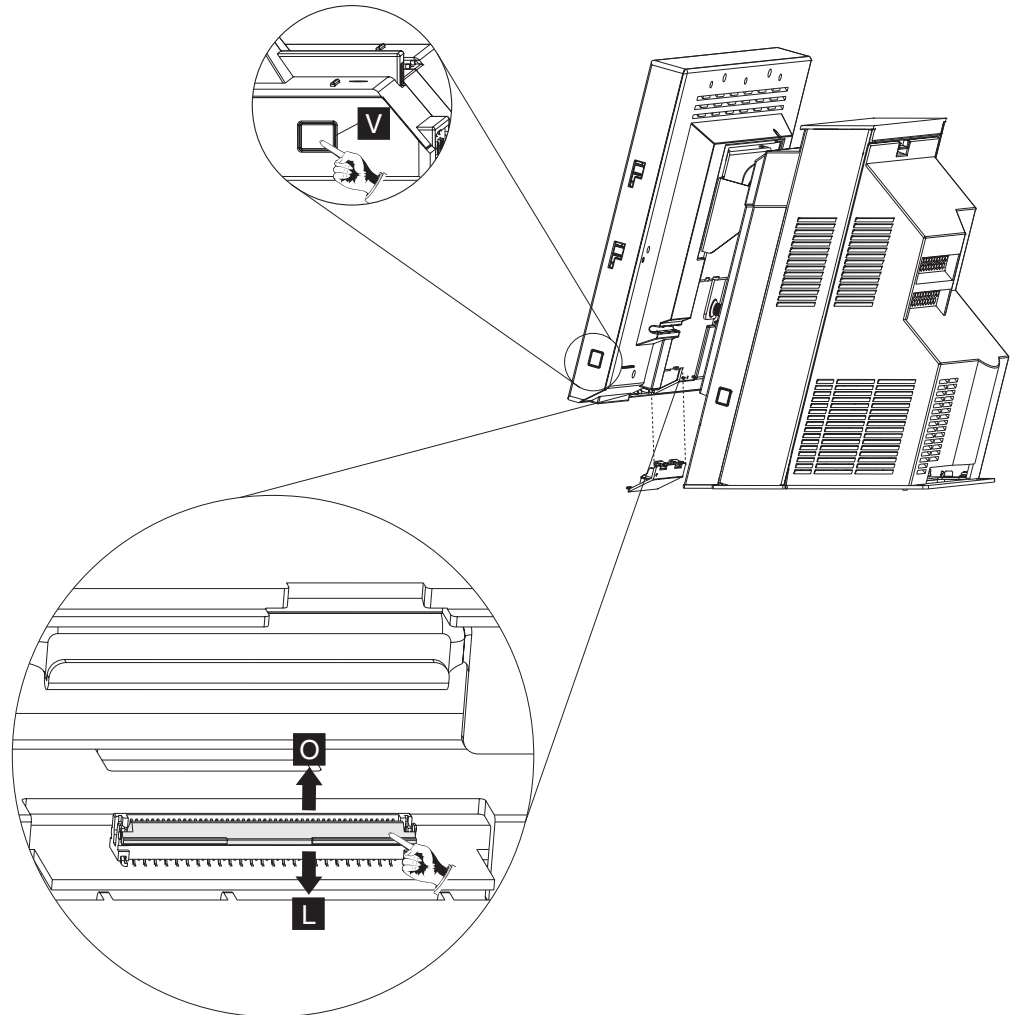

Figure 14. Disconnecting the touch cable and removing the front bezel
4. Disconnect the touch cable by lifting the connector lever to the open position (**O** in Figure 14) and lifting out the cable.
5. Press the buttons on either side of the tablet (**V** in Figure 14 on page 37) to unlock the bezel, and lift upward until the bezel stops. Then pull the bezel away from the tablet.
- a. Ensure that the connector lever is in the open position. See Figure 14 on page 37.
- c. Push the connector lever to the locked position (**L** in Figure 14 on page 37).